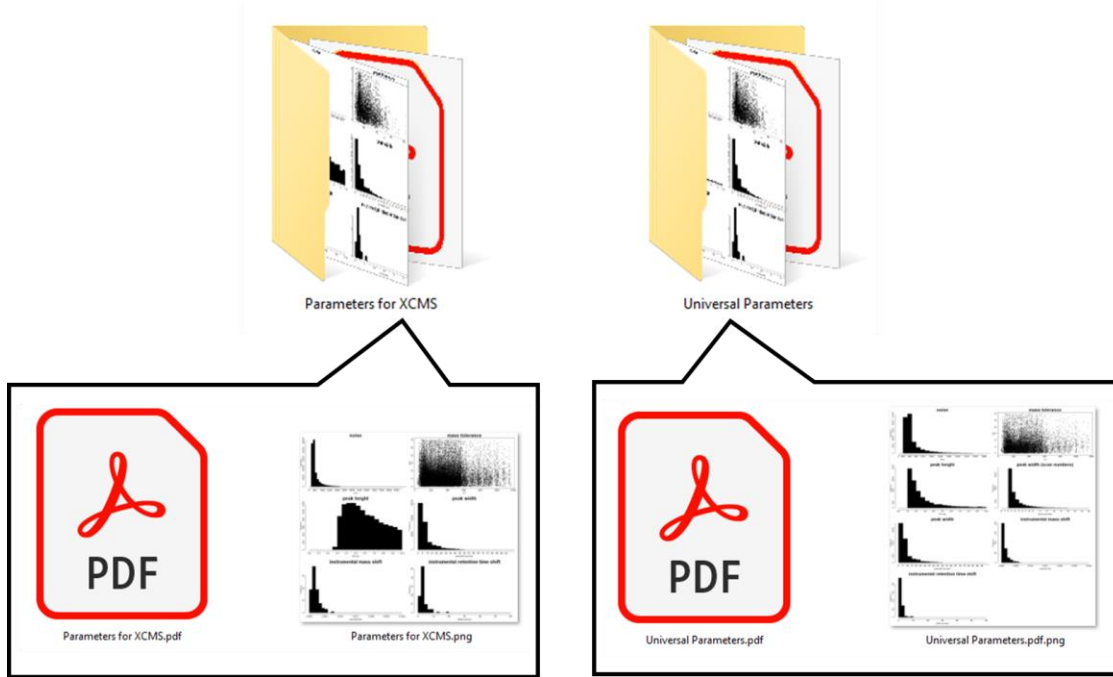

Figure 6. The output of Paramounter part 2.
- 7) Run Paramounter part 2 by clicking on “Source” in the top right corner of the document window of RStudio. Paramounter part 2 generates two folders. Each folder contains one .png file and one .pdf file (**Figure 6**).